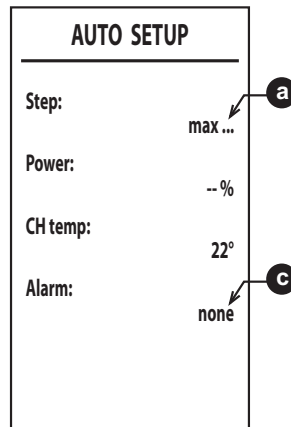

fig. 38
6. After ignition, the burner goes to heating at the various powers (max, med, min) indicated by point **a** (fig. 38).
8. If the ignition sequence described in point "6" is not successful, the message **max_err** at point **a** and an error code at point **c** will appear (fig. 38).